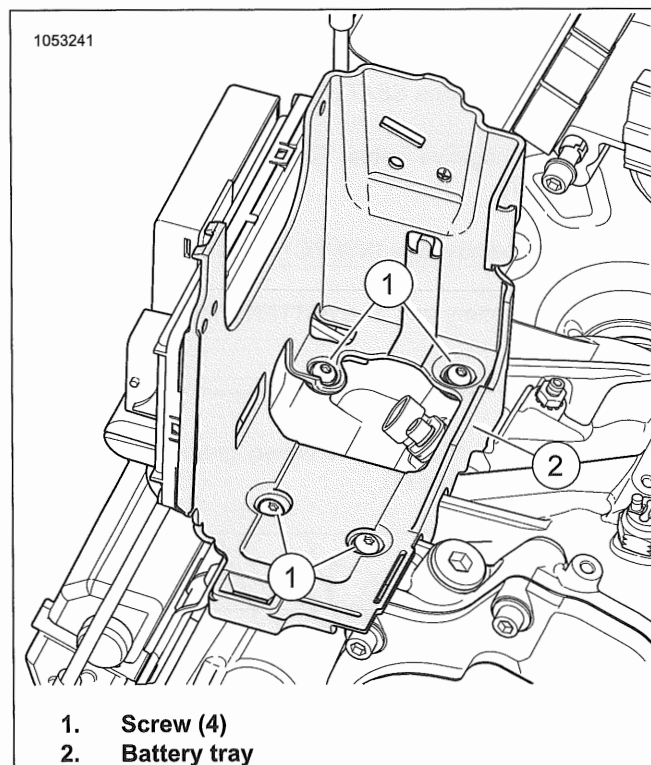

Figure 7-152. Battery Tray
3. See Figure 7-152. Remove battery tray.
- a. Remove screws (1).
- b. Remove battery tray (2).
1. See Figure 7-152. Install battery tray.
- a. Install battery tray (2).
- b. Install screws (1). Tighten.